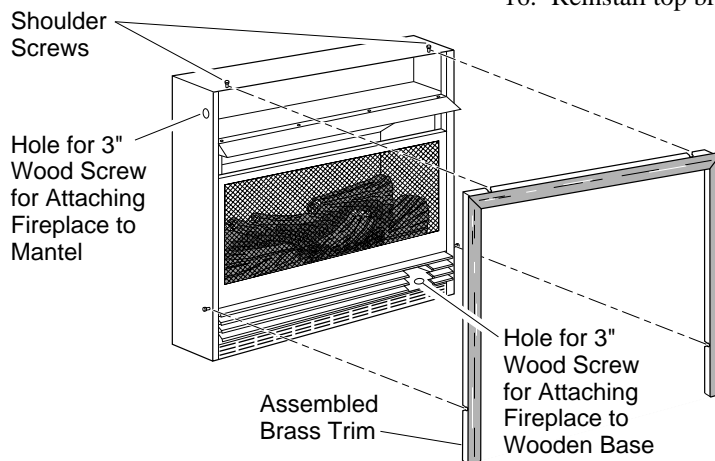

Figure 13 - Attaching Brass Trim to Fireplace
5. Firmly snap brass trim kit on shoulder screws. Shoulder screws are located on fireplace cabinet (see Figure 13).
7. Use two 3" wood screws provided and attach fireplace base to wooden base (see Figure 13).
14. Place brass trim kit on the shoulder screws located on the side and top of the fireplace. Firmly snap the brass trim over the shoulder screws on fireplace (see Figure 13).
15. Adjust assembly to remove any gaps. Attach remaining two 3" wood screws from hardware pack through openings inside of fireplace sides into the mantel. The openings are located at top behind the area for the brass louvers (see Figure 13).